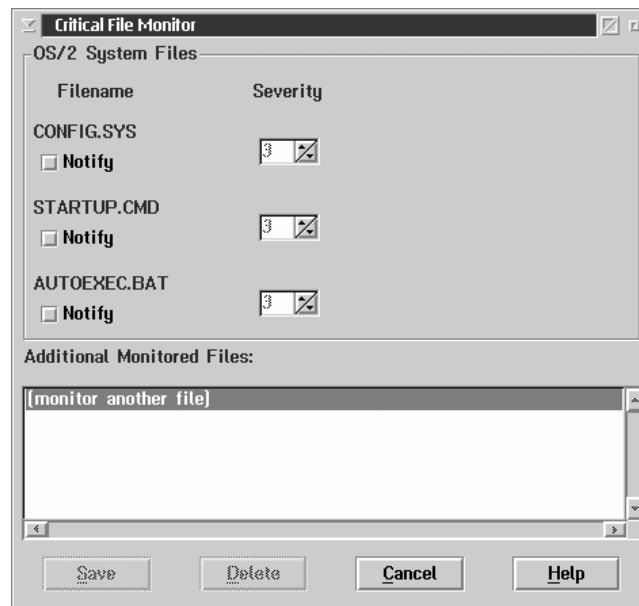

Figure 31. Critical File Monitor
1. Select (**monitor another file**) from the **Additional Monitored Files** field (see Figure 31 on page 97).